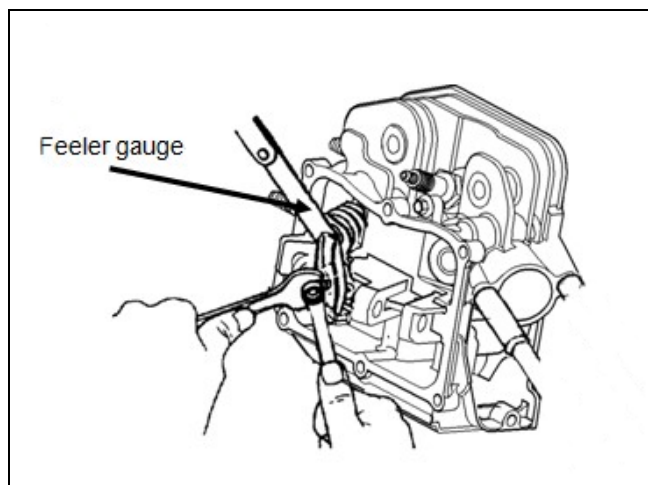

Figure 4-7. Valve Clearance Adjustment
1. Hold the rocker arm pivot with a wrench and loosen the pivot lock nut (Figure 4-7).